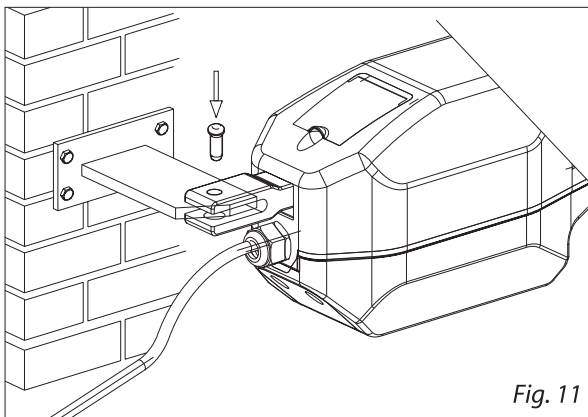
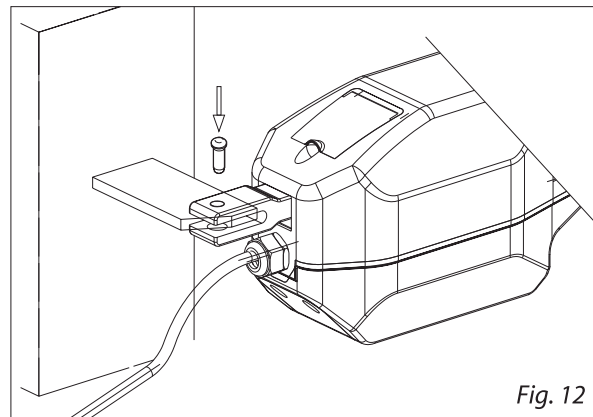

Fig. 11
Fig. 12
2) Assemble the rear brack fitting to the operator as shown in Fig. 11 and Fig. 12.